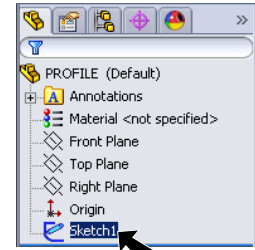

Fig. 10
Step 1. Click **Sketch1** in the Feature Manager to select the sketch, **Fig. 10**.